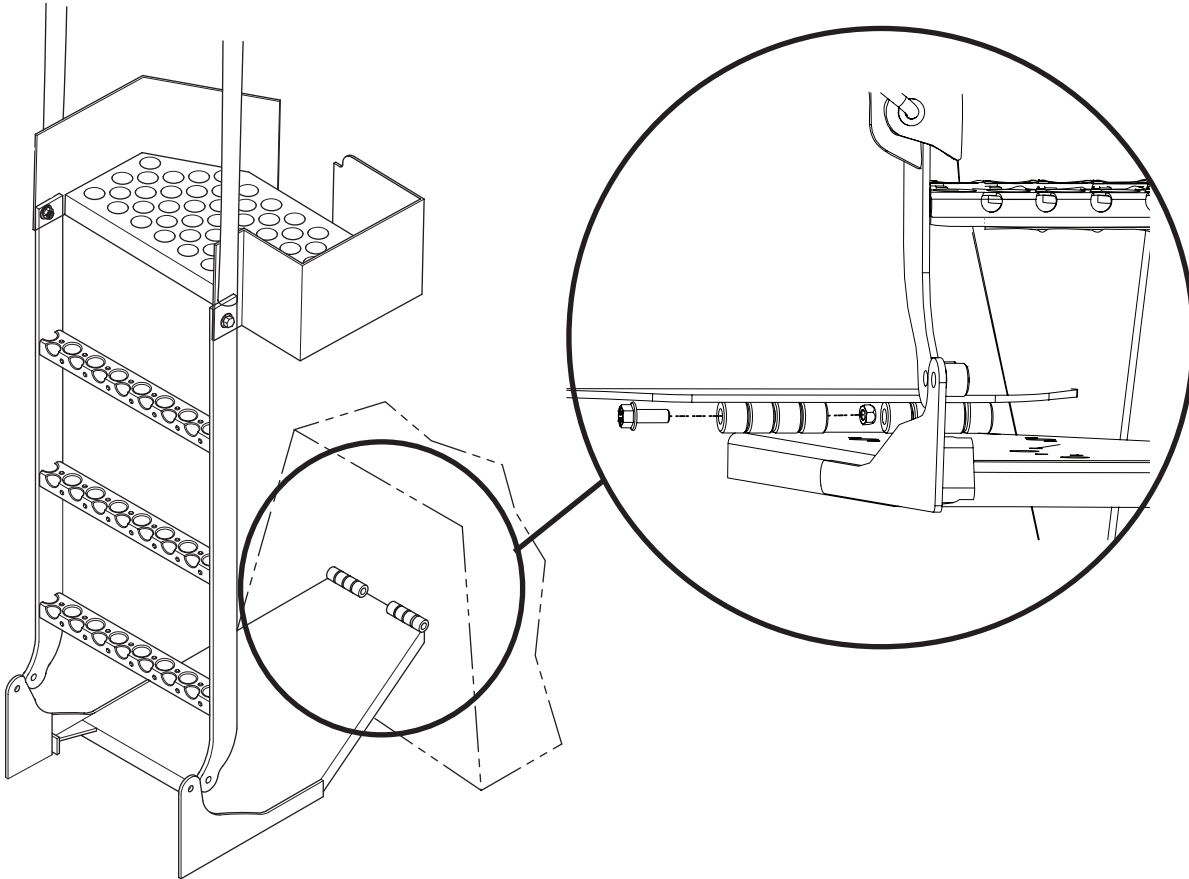

Figure 4: Remove and discard the (2) bolts and (2) nuts from the rear pedestal side of the platform. Only one side shown here.
4. Remove and discard the bolts and nuts from the platform on the rear pedestal end (see Figure 4).